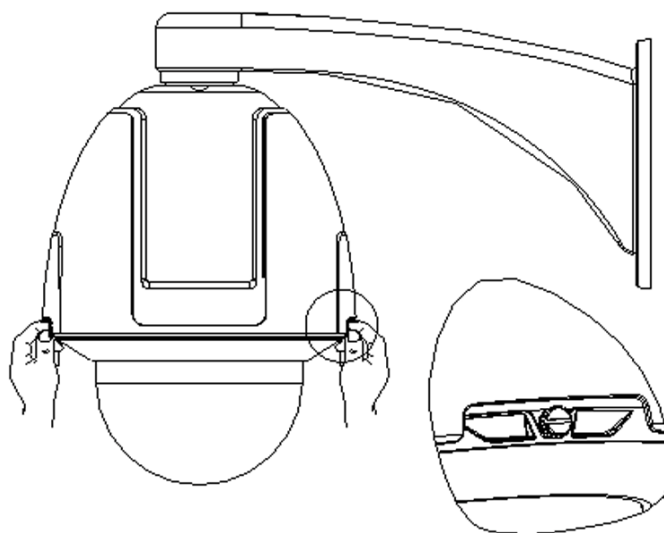

Figure 1.2.17 Install Bubble
7. Install the bubble and fasten the two set screws on both sides, as shown in Figure 1.2.17.